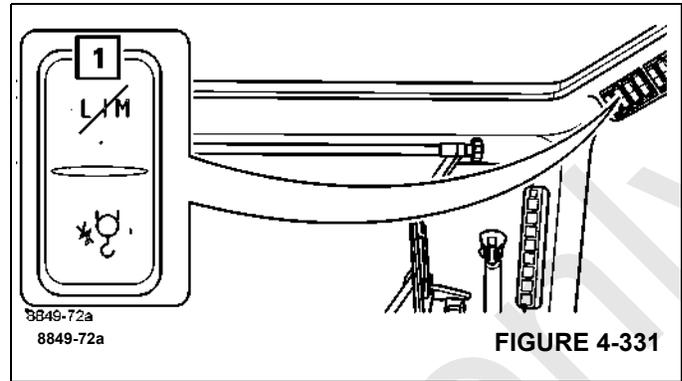

**FIGURE 4-330**
If the anti two-block switch is triggered, the crane movement is stopped once and the lamp (1), (Figure 4-330) flashes.
- The lamp (1), (Figure 4-330) goes out, when you release the button (override removed),